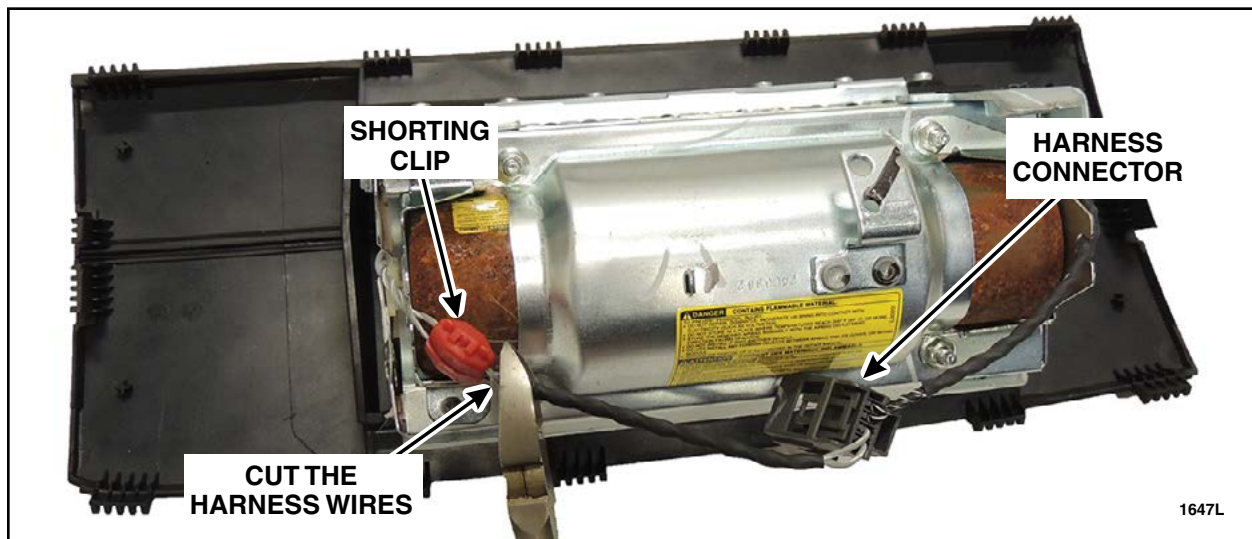

FIGURE 9
4. Cut the harness wires between the shorting clip and the harness connector. See Figure 9.